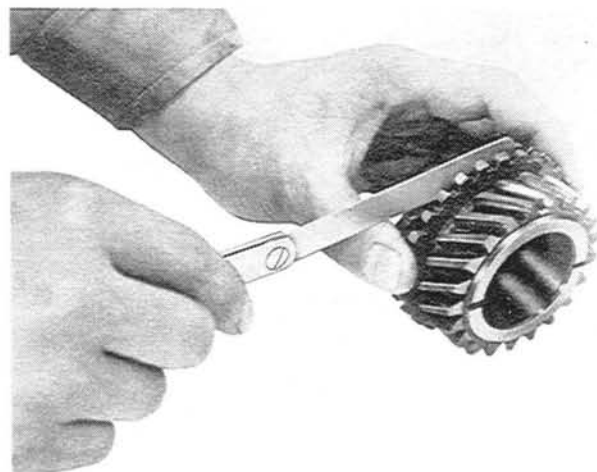

Fig. 7-15 Checking of synchronizer ring
2. Inspect the synchronizer ring for wear. To check the wear of the synchronizer ring, fit the synchronizer ring evenly to the gear cone and measure the clearance between the side faces of the synchronizer ring and the gear with a feeler gauge, as shown in Fig. 7-15. If it is less than **0.8 mm (0.032 in)**, replace the synchronizer ring or gear. The standard clearance is **1.5 mm (0.060 in)**.